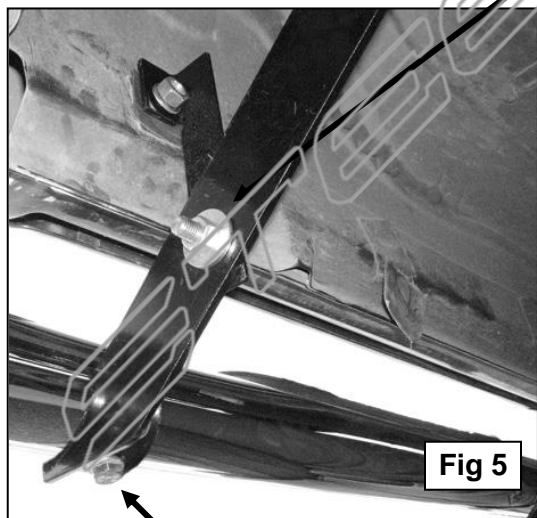

Fig 5
9. With assistance, carefully position the driver Sidebar onto the Mounting Brackets. Partially attach the Sidebar to the front and rear Mounting Brackets with the included (4) 8mm x 25mm Hex Bolts, (4) 8mm Lock Washers and (4) 8mm Flat Washers, **(Figure 5)**. Do not tighten hardware at this time.